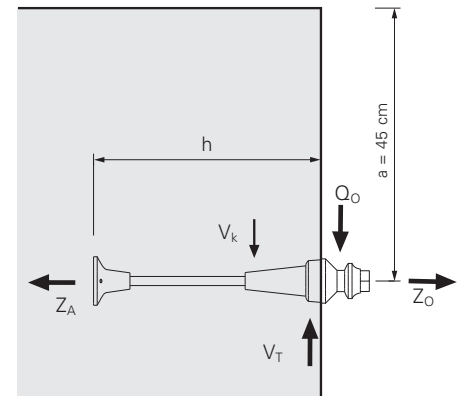

Fig. C1.01
- The maximum tensile force Z_o is diverted via the pressure on the threaded anchor plate Z_A into the concrete. (Fig. C1.01)